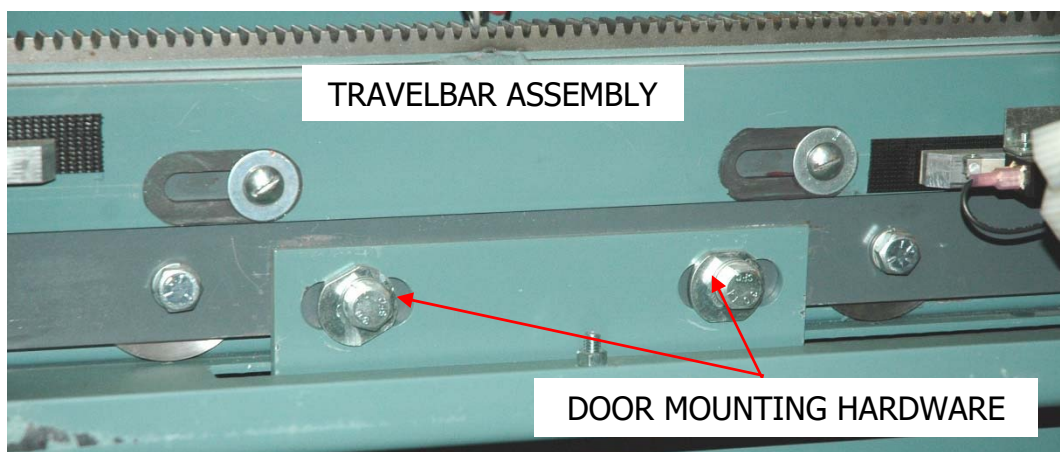

FIGURE 5
5. The **Travelbar Assembly** must be set on the track located inside the housing (Figure 5). The door must be inserted into the long slot on the bottom of the housing and slid into place underneath the VLC bottom lock. The VLC rod must be raised to allow the door to slide into position. Lifting the lockhead roller lifts the VLC rod. Once the door is positioned it can be lifted and attached to the travelbar assembly with (2) 1/2-13 x 1 1/4" HHCS, 1/2" lock washer, and Eccentric (**Hardware Bags - #8, #9, #11**). Leave bolts snug, but do not fully tighten.